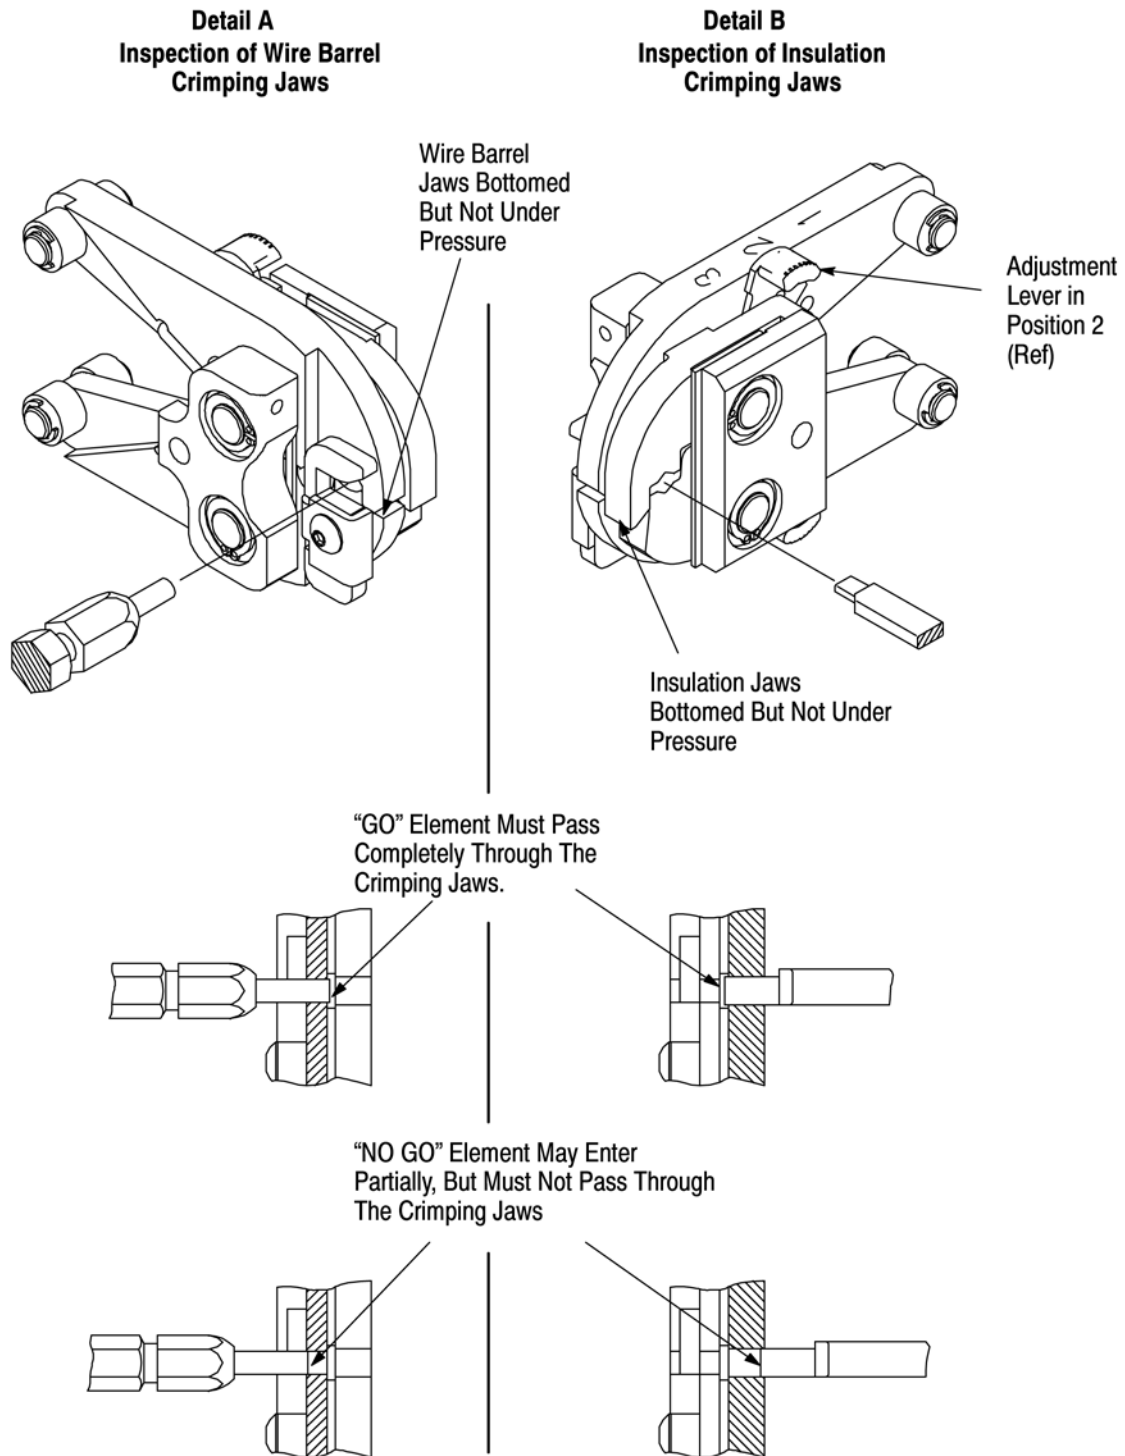

Figure 9
3. Align GO element with wire-barrel crimping chamber. Push element straight into crimping chamber without using force. The GO element must pass completely through the chamber as shown in Figure 9,A.
Repeat this procedure for the insulation-crimp chamber using a plug gage as shown in Figure 9,B.